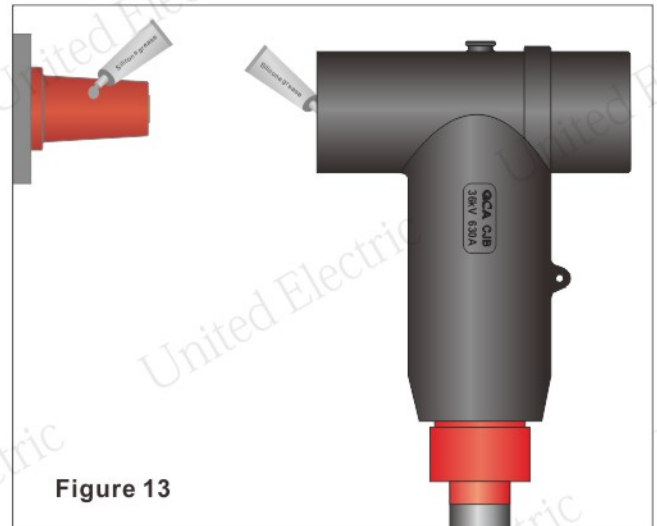

Figure 13
- Coat evenly a thin layer of silicone grease onto the connected bushing, and the inner surface of the front end of CJB30-630. (Figure 13)